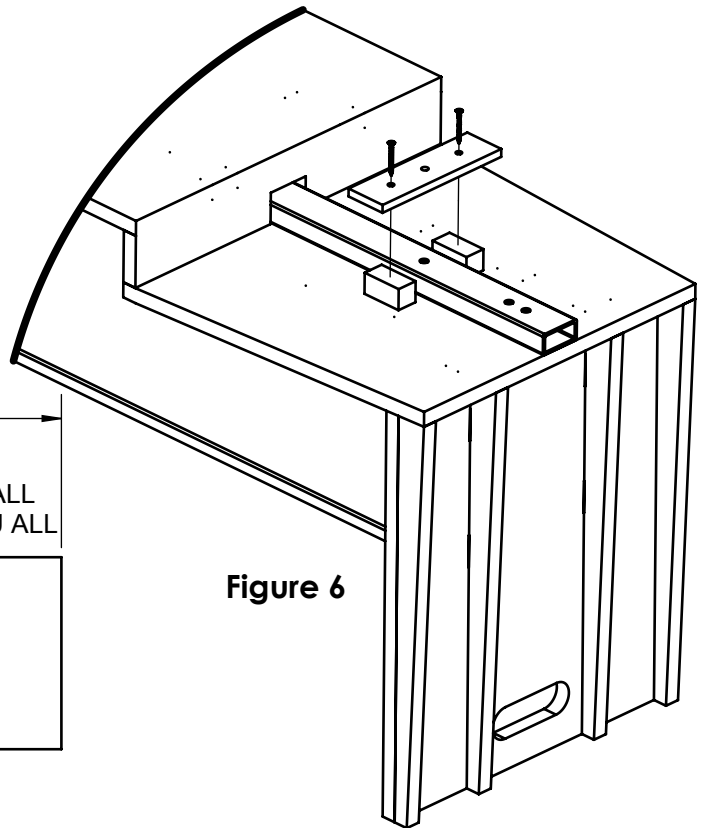

Figure 6
Cut and drill (2) bolster pads from 3/8" steel. Screw onto wood supports. (Figure 6)